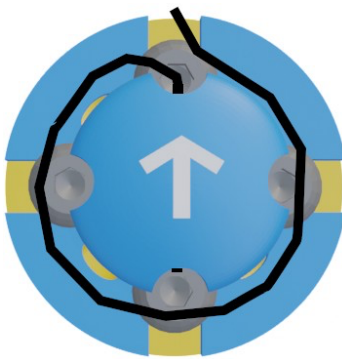

Figure 5.60: Pre-winding operation of the tendon extension end
1. Make the tendon perform a clockwise turn around the extension winder before it enters the upper hole (figure 5.60)